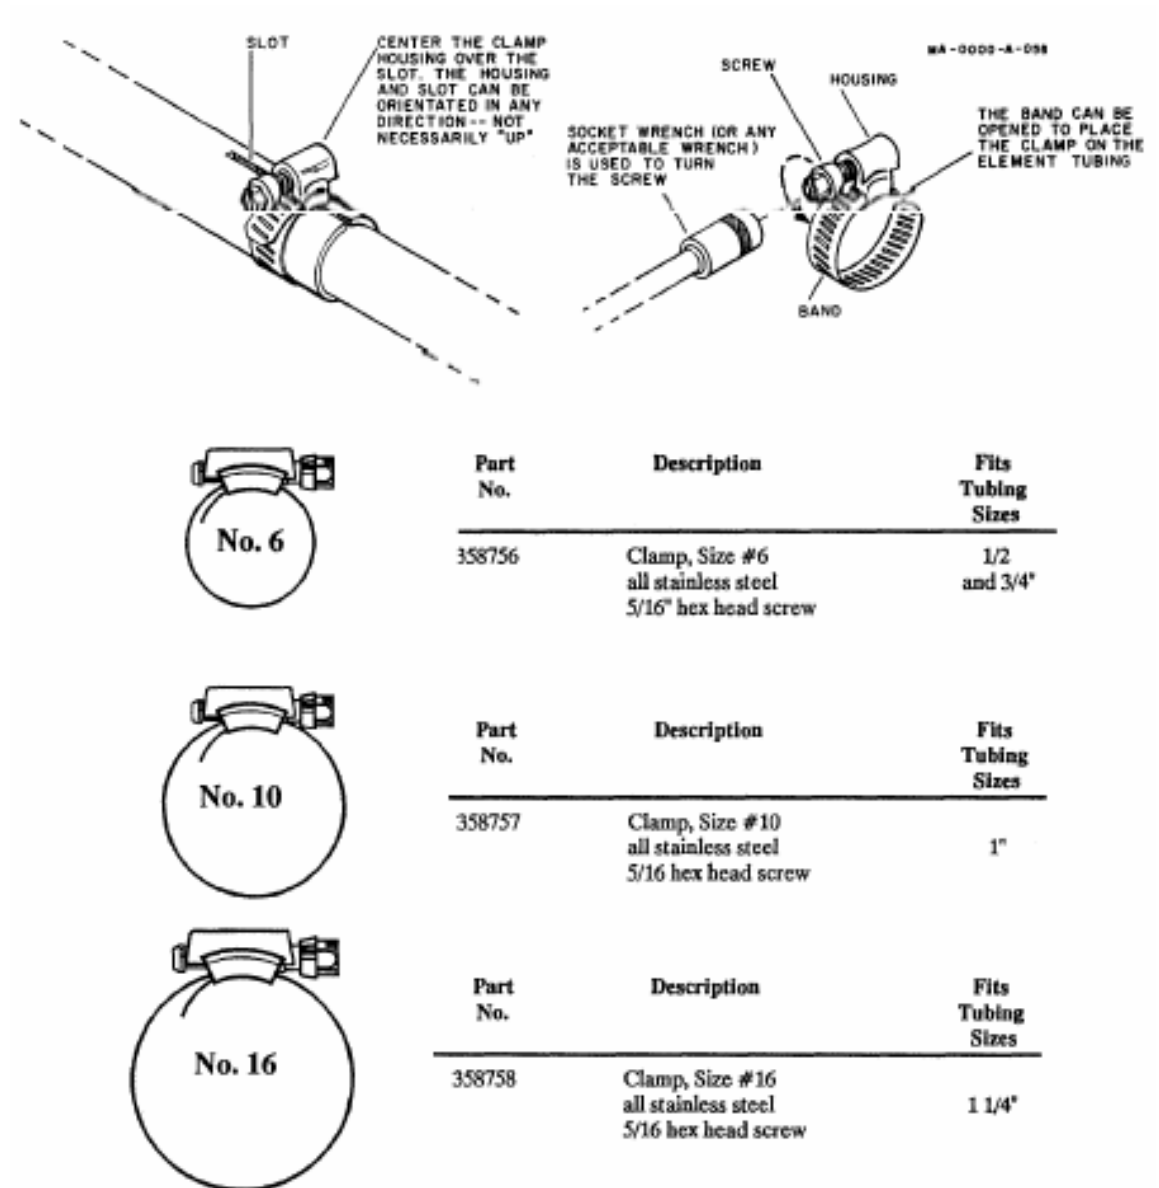

Figure 3 Tubing Clamps
If you are roof mounting your antenna, use four (4) sets of 1/4"-20 hardware for the preceding step. Before tightening them, attach two adjacent radials to each set of hardware as shown in Figures 3 and 5. If desired, you may use the four, 33 foot radial system shown.